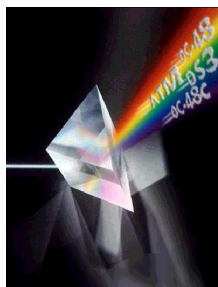

Figure 2-26. DWDM Channel Monitor Desktop Icon
- A DWDM Channel Monitor icon is created on the desktop (see Figure 2-26).